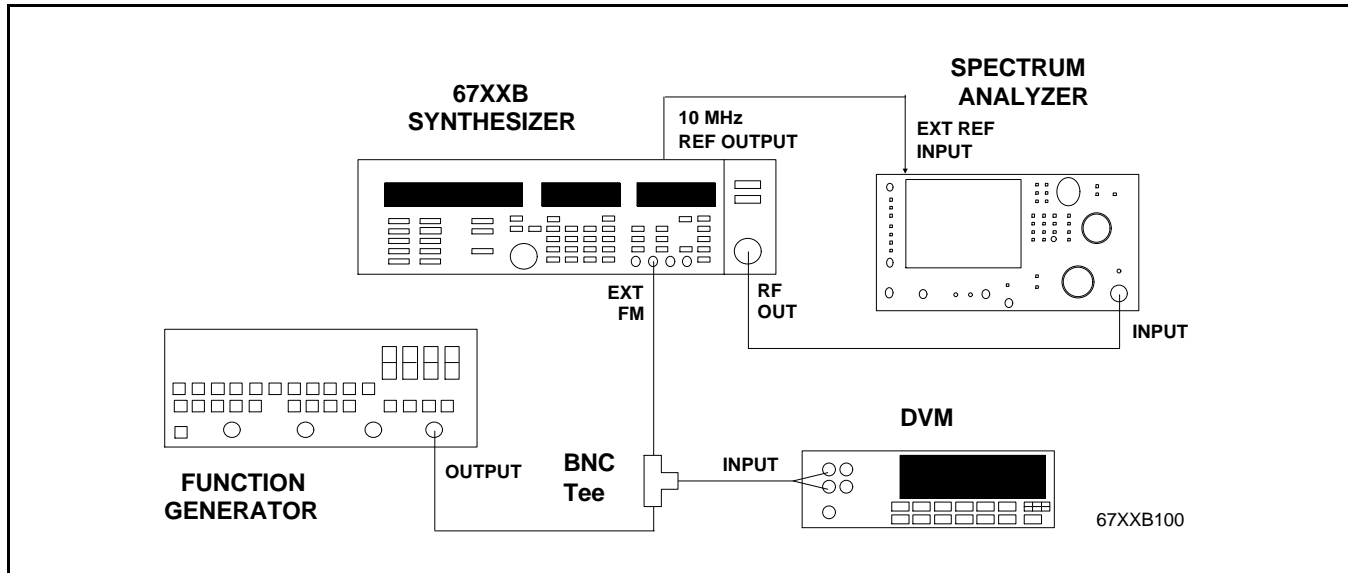

Figure 3-18. Test Equipment Setup for FM Flatness Calibration (0.01 to 20 GHz)
1. Connect the equipment, shown in Figure 3-18, as follows: